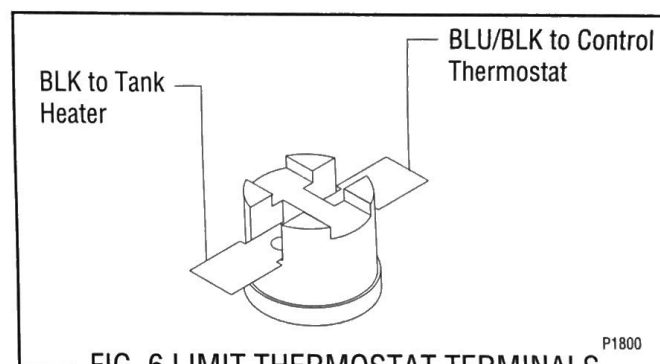

FIG. 6 LIMIT THERMOSTAT TERMINALS
4. Refer to Fig. 6 when reconnecting the wires.